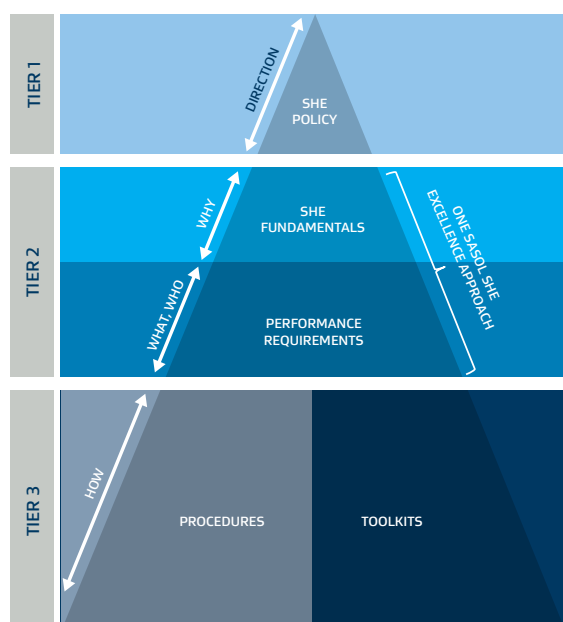

Figure 5: SHE directional governance framework
SHE direction is governed by the framework explained on **p11, Figure 5** below. The SHE policy sets out the overarching SHE commitments for the Group, which includes the entire Operating Model and Value Chain. The One Sasol SHE Excellence approach (1S SHE EA) interprets the direction given in the SHE policy, through the SHE fundamentals and performance requirements (WHY, WHAT and WHO). Lastly, these fundamentals and requirements of the 1S SHE EA inform the procedures and toolkits that are aimed at supporting the execution of SHE practices and activities in OMEs (HOW).
- SHE directional governance framework (**Figure 5, p20**);